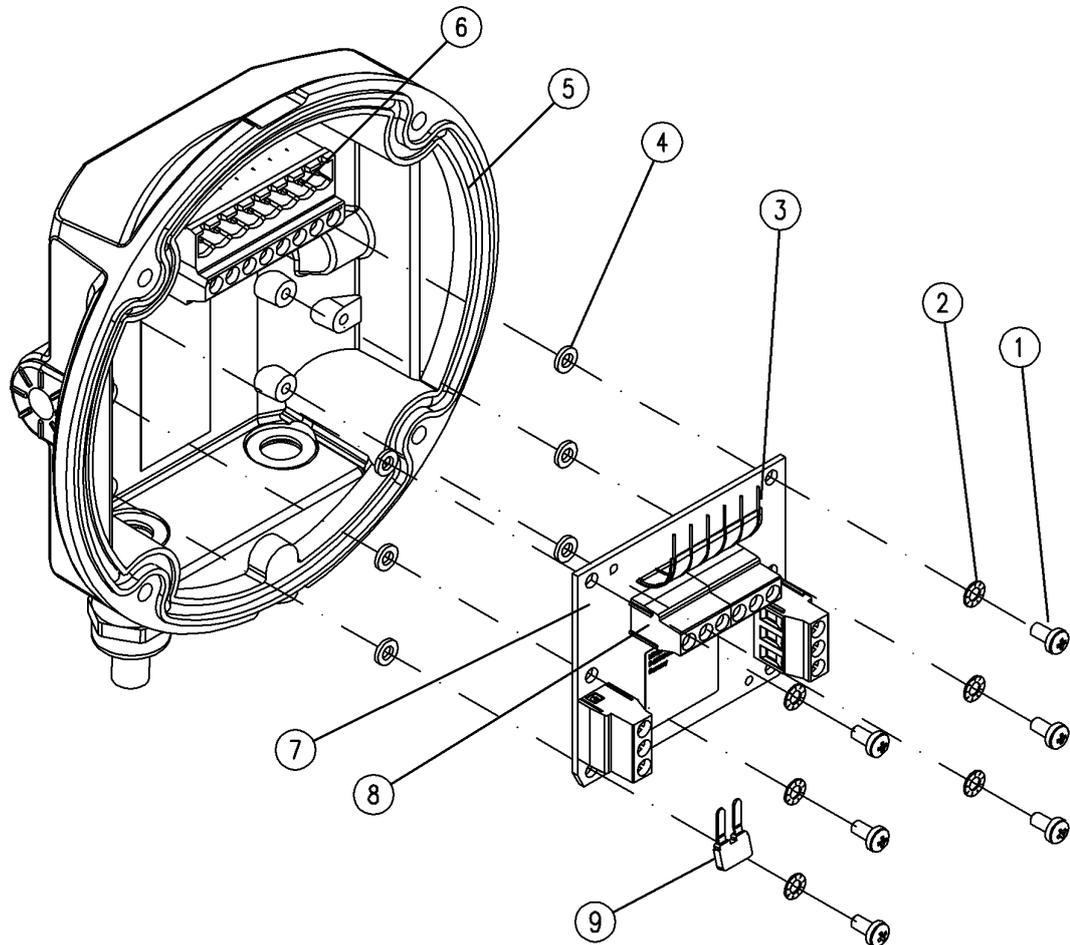
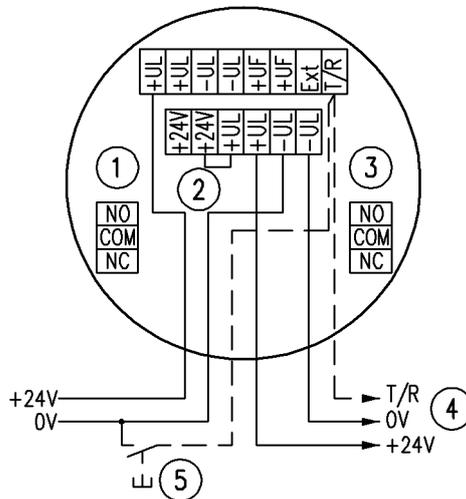
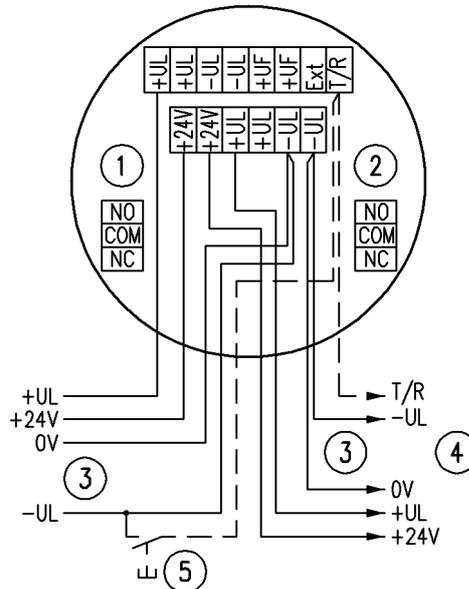

Fig. 37: Assembling the relay module, example KMX5000 RK
Fig. 38: Relay module connection - common voltage supply
Fig. 39: Connection for separate voltage supply
1. ➤ Using the six fixing screws (Fig. 37/1), serrated lock washers (Fig. 37/2), and plastic insulating bushes (Fig. 37/4), firmly screw the relay module (Fig. 37/7) into the detector base (Fig. 37/5).
2. ➤ Connect and screw in 6-pole flex connection (Fig. 37/3) with corresponding connecting terminals (Fig. 37/6) to the detector base.
3. ➤ If using shared voltage supply: Insert short-circuit bridge (Fig. 37/9) and (Fig. 38/2) into connecting terminals "+24V" and "+UL" and screw into place.
4. ➤ For separate voltage supplies: Remove short-circuit bridge (Fig. 38/2) and insert two common return conductors ("-UL" / "0 V") (Fig. 39/4). The conductor cross-section has to be the same for both lines.